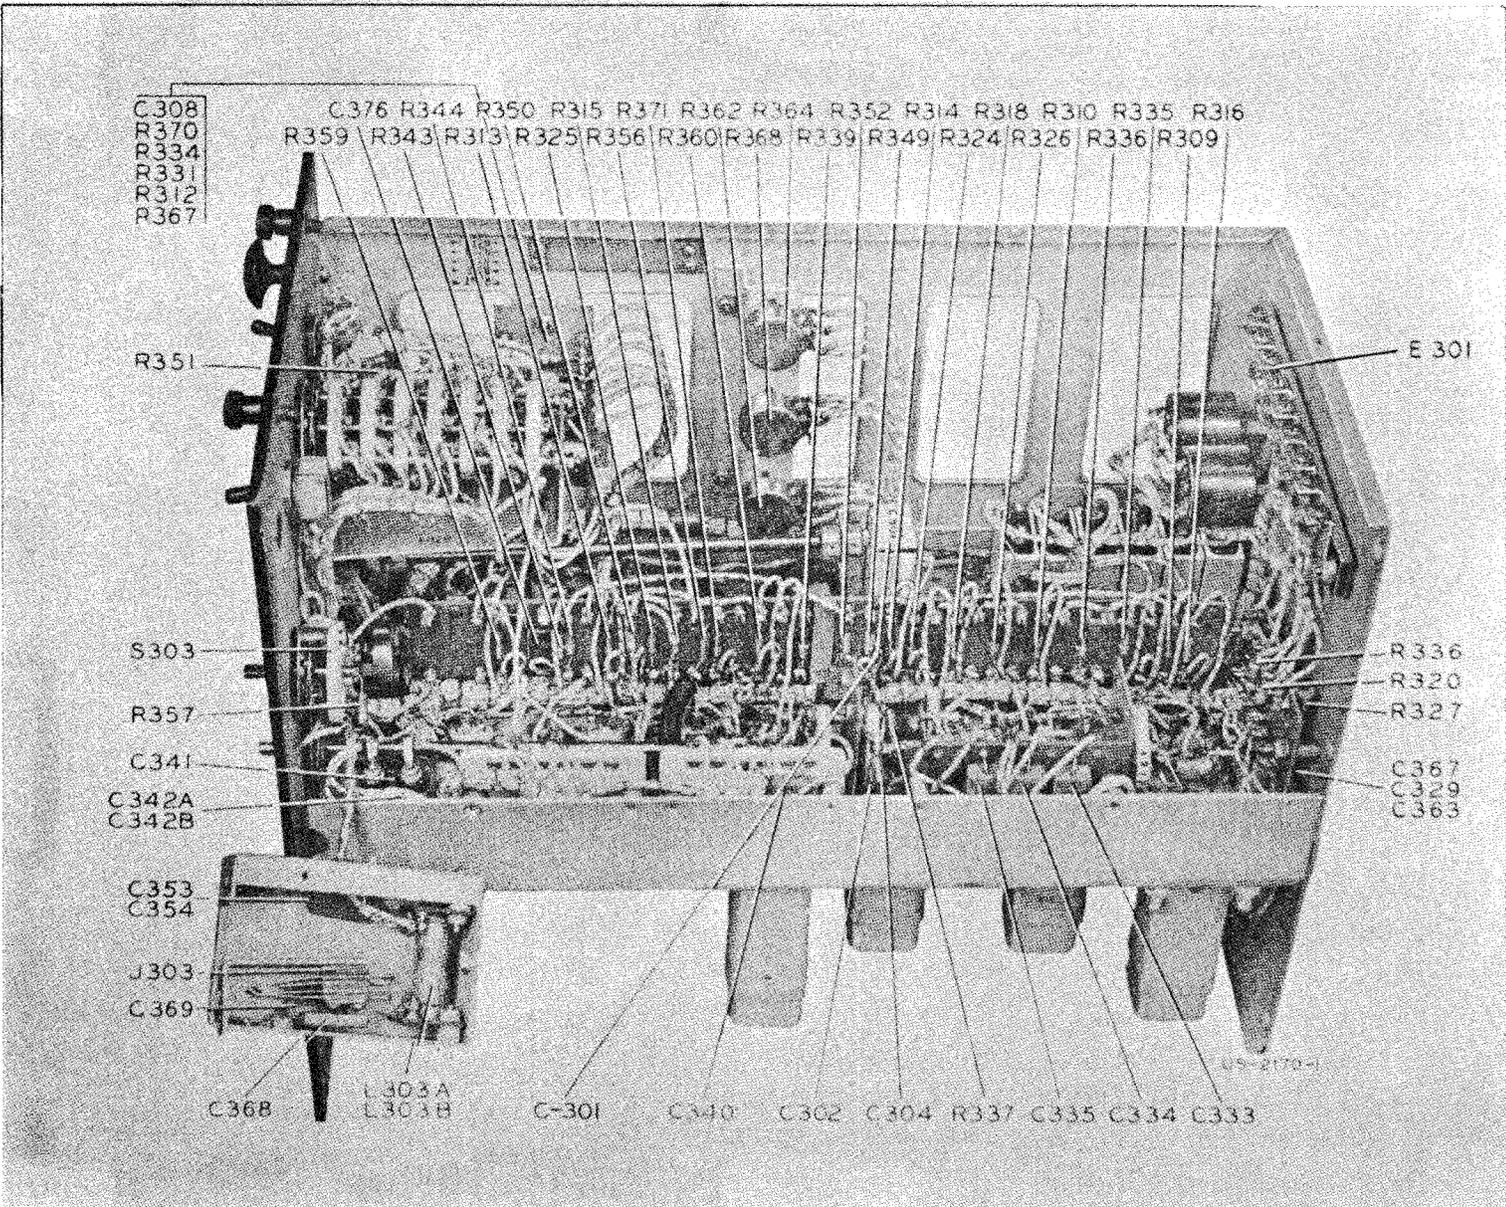

Figure 7-15. RBB/RBC-1F/AF Section, Component Identification, Below Chassis
(3) ADJUSTMENT OF BAND-PASS FILTER PAD R364.—Band-pass filter potentiometer, R364, is situated on the side of the if/af section, below the chassis. Location of R364 is indicated on Figures 7-15 and 7-17. An r-f signal generator is required capable
Disconnect the power leads from terminal board E301, identified on Figure 7-15.